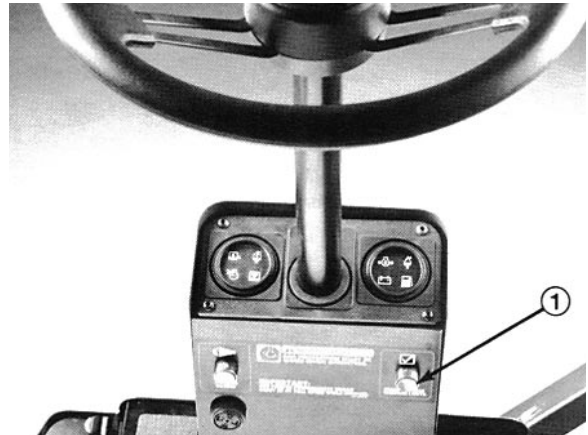

Figure 13
1. Apply the parking brake, turn the ignition key ON. Push the warning indicator light button (Fig. 13). All lights should illuminate and the alarm will sound.